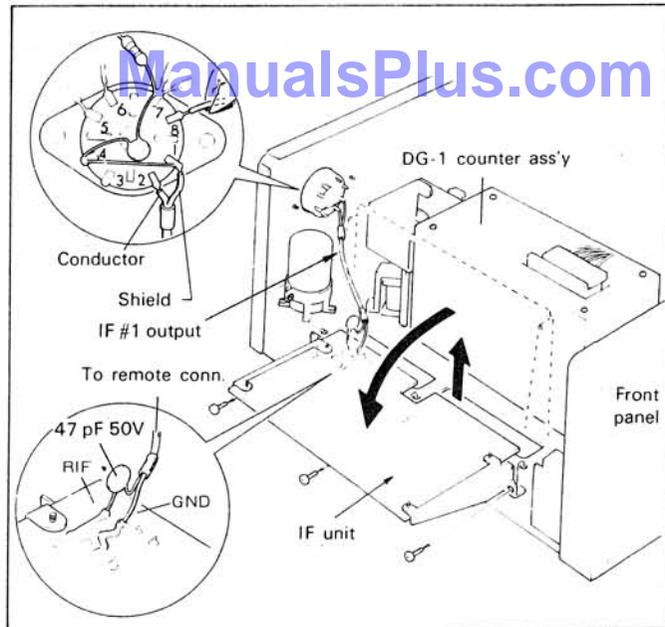

Fig. 8-6. TS-820 series IF sample cable installation
- Remove the cases and solder the capacitor side of the coaxial cable to the RIF GND terminal on the bottom of the IF UNIT (X48-1150-00) printed circuit board, located on the left side of the transceiver as viewed from the front. Solder the other end of the cable to the Remote 8P (octal) plug: Pin 1 (shield braid) and Pin 2 (conductor). The green leads between PHONE PATCH OUT and Pin 8 of the remote plug should be cut off, soldered, and insulated. (Refer to Fig. 8.6.)